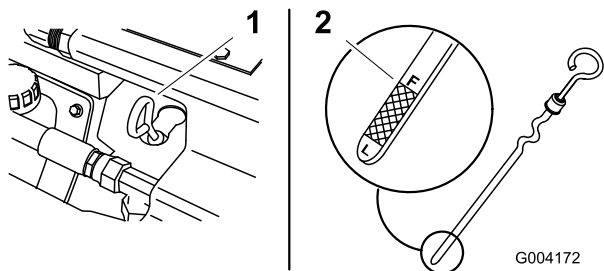

Figure 15
- Clean around the oil dipstick (Figure 15).
- Pull out the dipstick and wipe the metal end clean (Figure 15).
- Slide the dipstick fully into the dipstick tube (Figure 15).